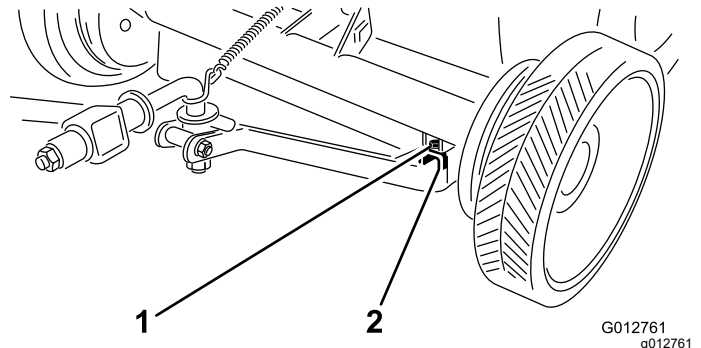

Figure 12
1. Align the holes in the draw bar with the brackets on the mower cross-tubes. Secure each side with a capscrew (1/2-13 x 3-1/2 inch), spacer tube, and locknut (1/2-13) as shown in in Figure 12.